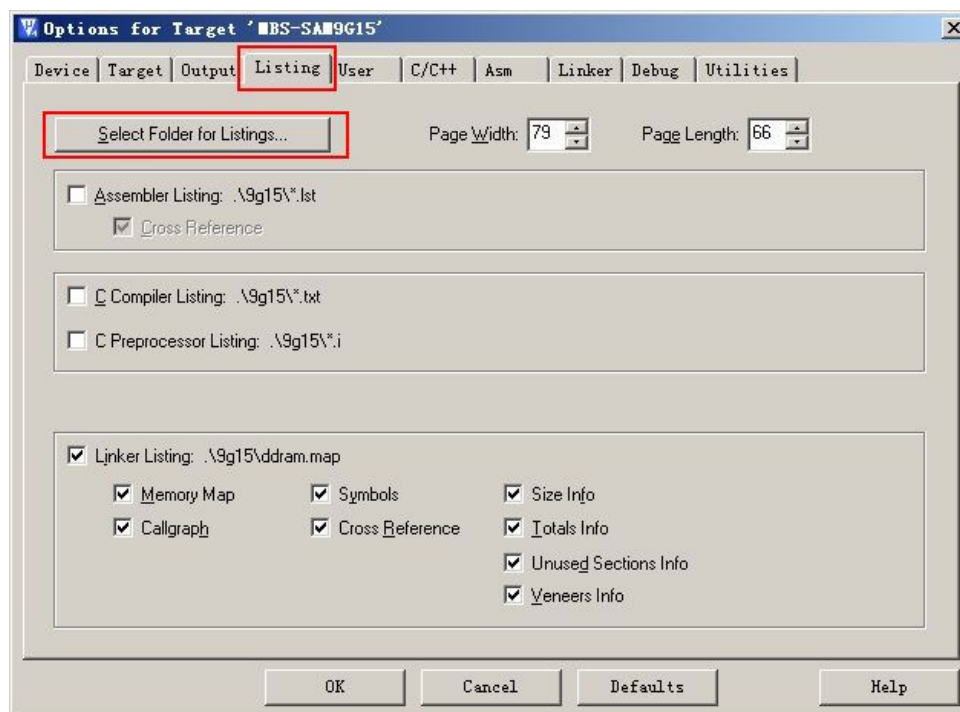

Figure 1.4 Listing configuration
(4) Click listing tab, select the folder project\9g15 as shown in figure 1.4: